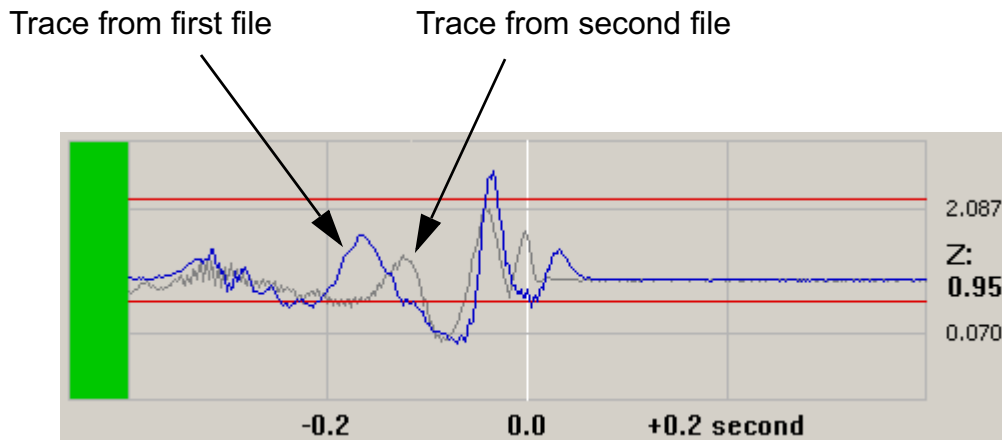

Figure 4.12: Trace Overlay
7. To have VibeReview overlay all traces from the second file on the corresponding traces from the first file, in the **Compare** controls, check **Overlay**. The traces from the second file appear as gray lines over the traces from the first file (see Figure 4.12).